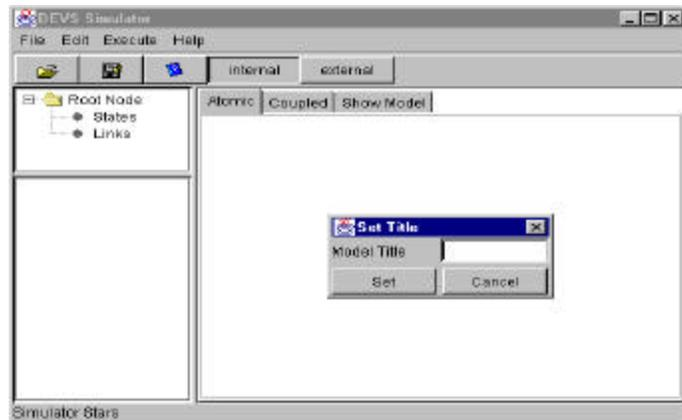

Fig 3
- Click the "Model Title" item. A "Set Title" dialog will be shown like Fig 3.